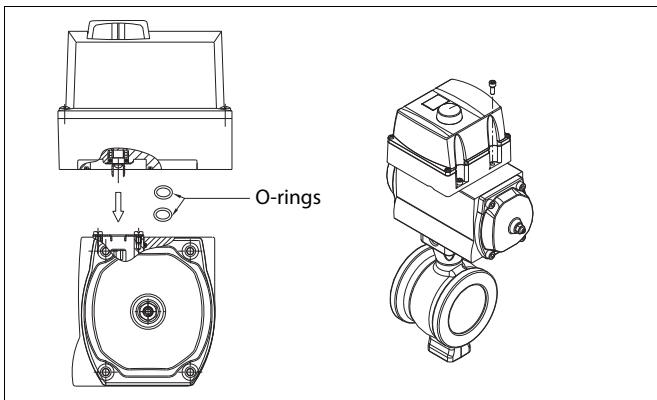

Fig. 3 Mounting on EC and EJ actuators,
- Mount the U-shaped coupling (47) to the shaft. Apply thread-locking compound to the screws (48) and tighten firmly.
- Remove all protective plastic plugs (5 pcs.) from all pneumatic connections. Mount the metal plugs (53) to the unused controller connections with sealant. For EJ (single acting, spring to close) and EJA (single acting, spring to open) actuators, mount a metal plug (54) with sealant to the C1 connection at the bottom of the controller.
- Mount the O-ring (49) into the square groove in the bottom of the controller.
- Place the valve controller on top of the actuator so that the pointer of the shaft washer (16) is located in the position shown in Fig. 3.
- Fasten the screws (4).